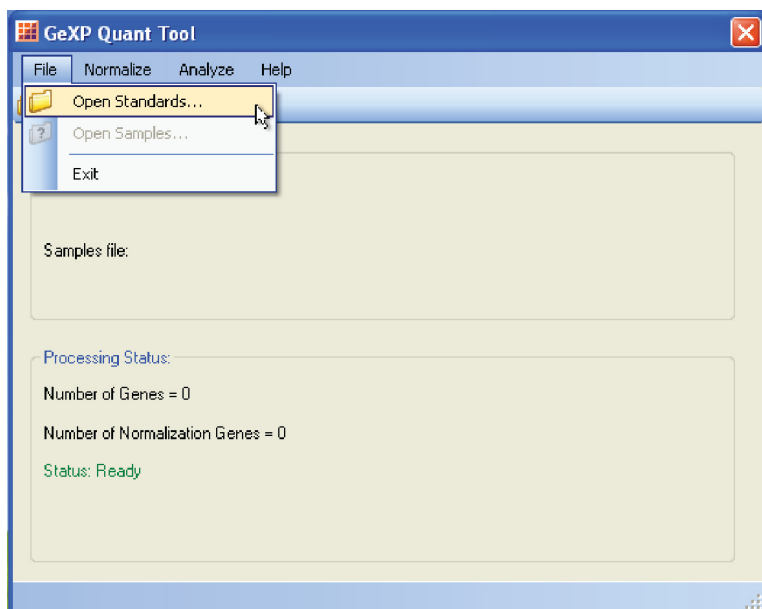

Figure 7.37 Selecting “Open Standards”
1. From the “File” menu, select “Open Standards” to select and import Standard curve data for analysis. Refer to Figure 7.37.